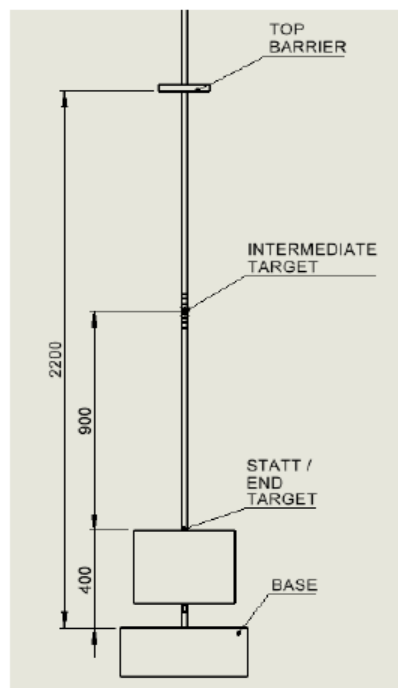

Figure 3. Single pipe rig schematic (for reference only)
6. Position the device with the top datum surface between the starting target lines as in Figure 3.